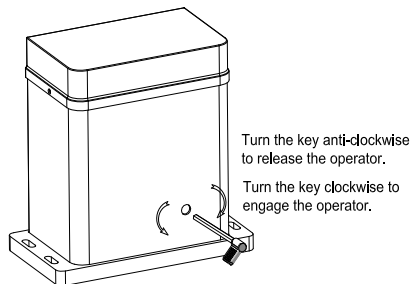

Fig.7
- Turn the key 6-8 circles anticlockwise see Fig.7.
- Turn the key 6-8 circles clockwise to engage the gate operator.